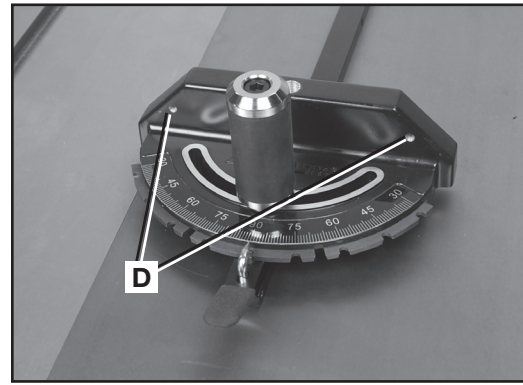

FIG. 59
For added safety and convenience, you can fit the miter gauge with an auxiliary wood-facing that should be at least 1" (25 mm) higher than the maximum depth of cut, and should extend out 12" (305 mm) or more to one side or the other depending on which miter gauge slot is being used. This auxiliary wood-facing can be fastened to the front of the miter gauge by using two wood screws through the holes (D) Fig. 59 provided in the miter gauge body and into the wood-facing.